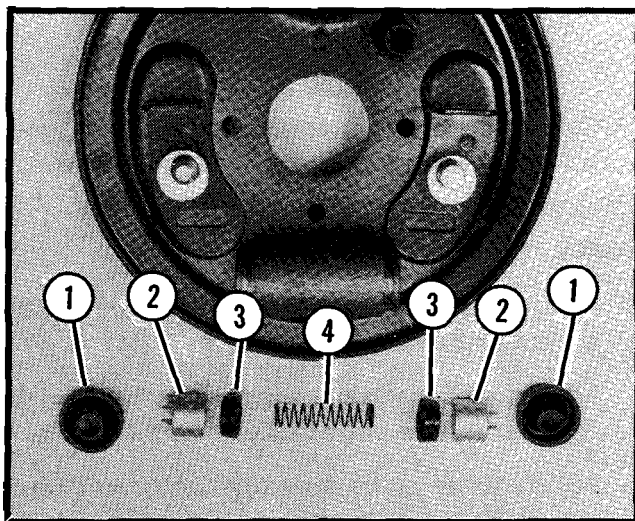

Figure 14.
4. Remove the boot from each end of the cylinder and push the pistons, rubber cups, and spring out of the cylinder. See Figure 14.